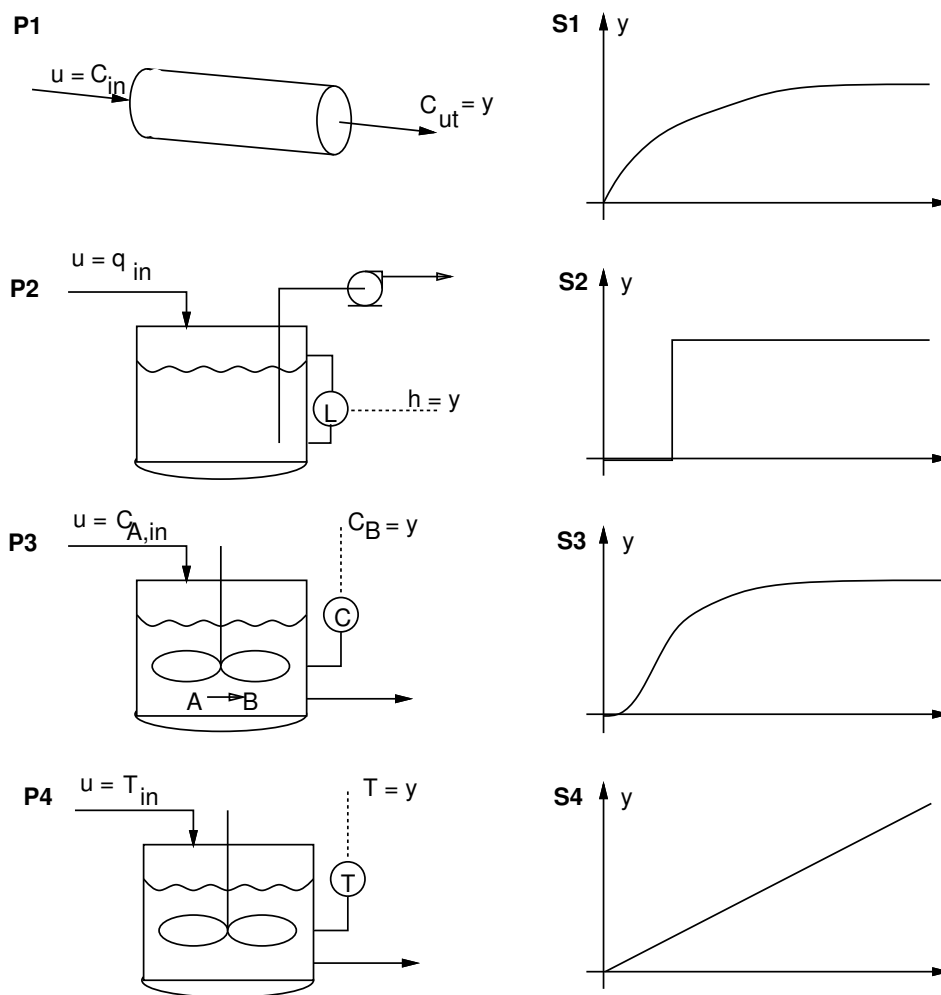

Figure 3.3 Processes and step responses in Problem 3.5
- 3.5** In Figure 3.3 there are four different processes and four different step responses. Each step response corresponds to one of the processes. Match each process with one of the step responses.